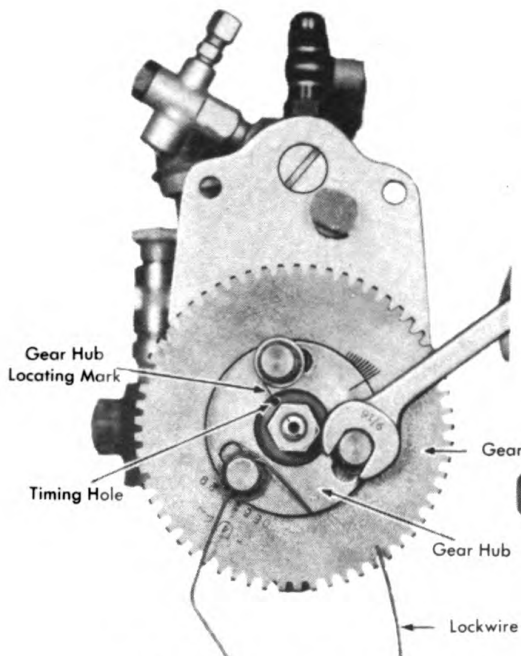

Figure 36. Loosening Capscrew so Gear Hub is Free to Turn
3. Remove the wire locks from the capscrews of the fuel pump gear. Slightly loosen the three capscrews so that the gear hub is free to turn. See Figure 36.